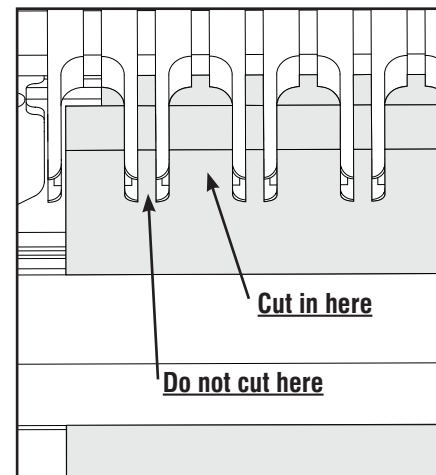

Fig. I18
**NOTE:** Cut only between angled corners - do not cut between straight edges as shown in Fig. I18.